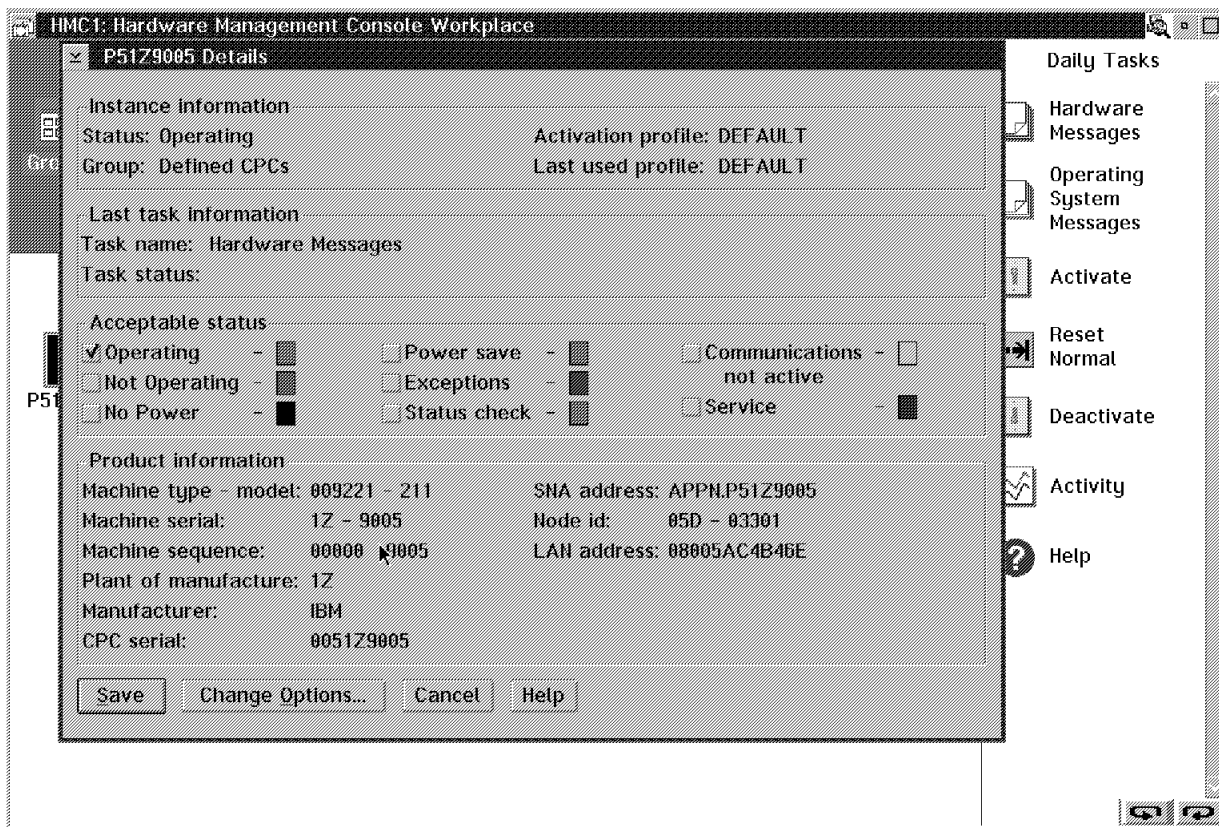

Figure 7. Status Information for a 9221 System
- The system will show you a screen which looks like Figure 7